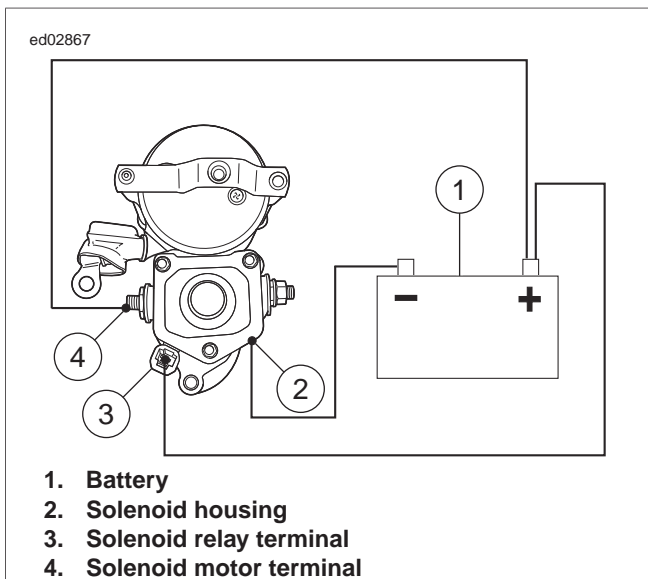

Figure 3-7. Hold-In Test
- See Figure 3-7. With test leads still connected in the manner specified in the previous 3.4 TESTING STARTER ON BENCH, Solenoid Pull-In Test, disconnect solenoid motor terminal/battery negative test lead at negative battery post only; reconnect loose end of this test lead to positive battery post instead.